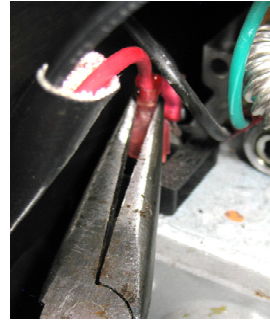

Figure 27
30. Attach red wire from new harness to power terminal on gas valve where black wire was removed (see Figure 27).